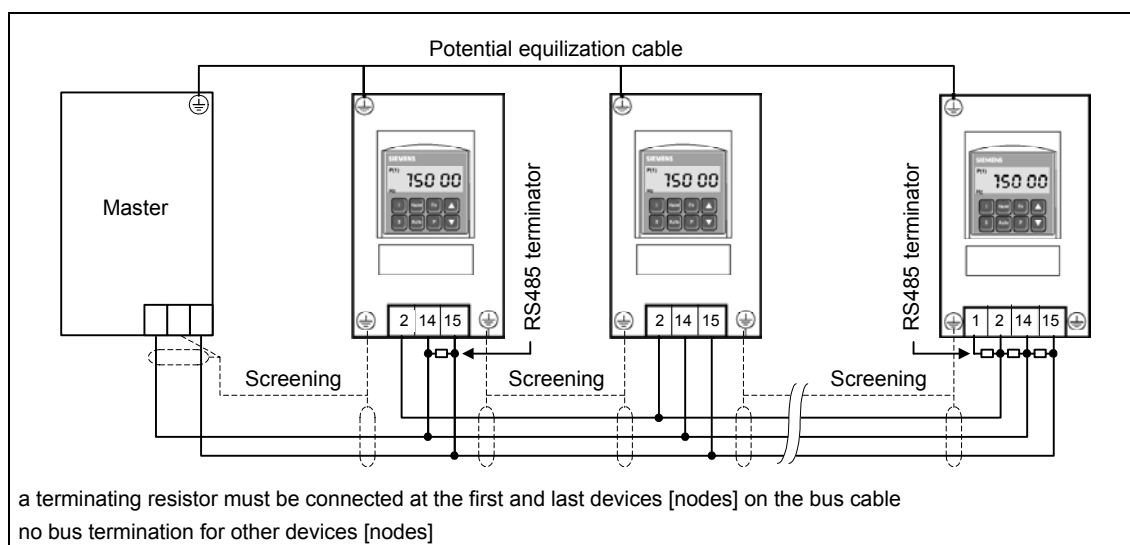
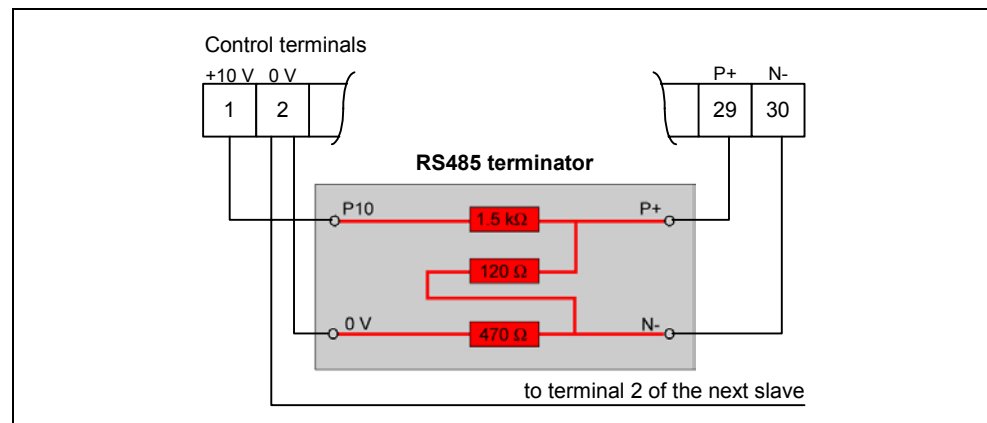

Fig. 3-40 Connecting the USS bus cable
Fig. 3-41 Connecting the RS485 terminator
2. A terminating resistor between P+ and N- at both bus ends (refer to Fig. 3-41)
If the frequency inverter is the last slave on the bus (refer to Fig. 3-40), then the P+ and N- of the RS485 terminator provided must be connected there to the RS485 terminals (refer to Fig. 3-41). P10 and 0 V can be connected to terminals 1 and 2 for the power supply. If the frequency inverter is the first slave, then the bus should only be terminated there with P+ and N-.